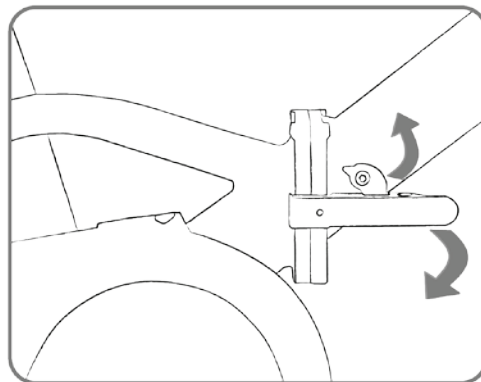
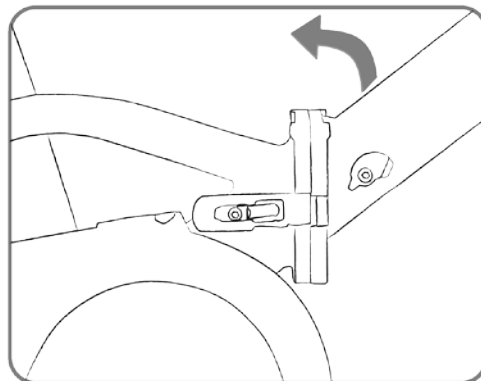

fig. 1
fig. 2
3. Unlock the clamp of the frame (fig. 1, fig 2).